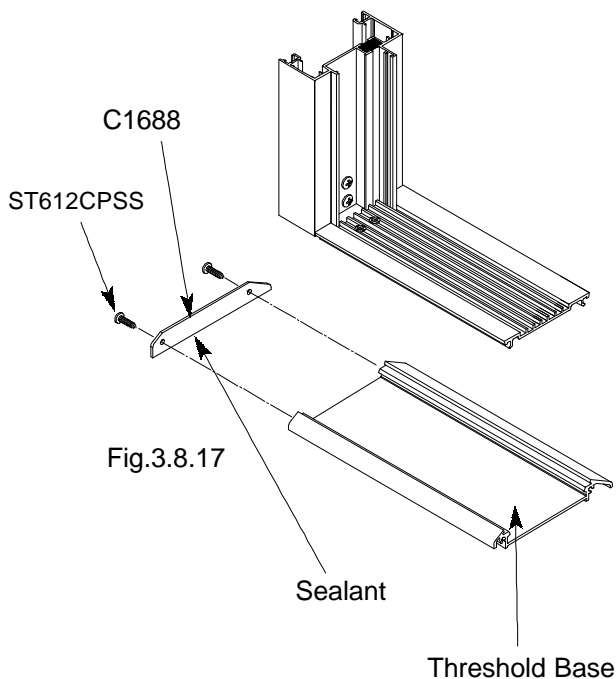

Fig.3.8.17
- Positioning the complete frame centrally to the base, it can now be push clipped down into the base. This may require applying a direct force. (Fig.3.8.17) Slip one leg of the track into the base prior to applying force.